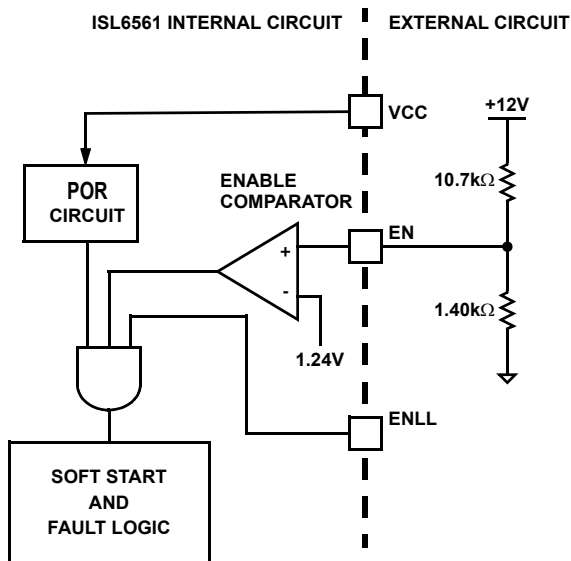

FIGURE 9. POWER SEQUENCING USING THRESHOLD-SENSITIVE ENABLE (EN) FUNCTION
2 - The ISL6561 features an enable input (EN) for power sequencing between the controller bias voltage and another voltage rail. The enable comparator holds the ISL6561 in shutdown until the voltage at EN rises above 1.24V. The enable comparator has about 100mV of hysteresis to prevent bounce. It is important that the driver ICs reach their POR level before the ISL6561 becomes enabled. The schematic in Figure 9 demonstrates sequencing the ISL6561 with the HIP660X family of Intersil MOSFET drivers, which require 12V bias.